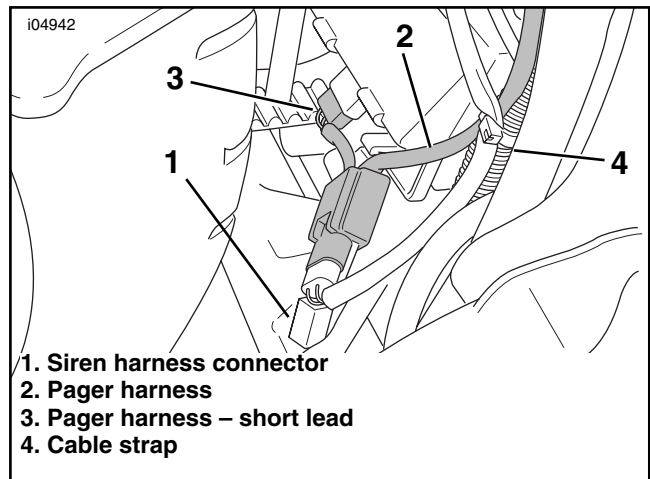

Figure 9. Connect Pager Harness to Siren
5. See Figure 9. Disconnect the existing siren harness connector (1) from the siren (if equipped).